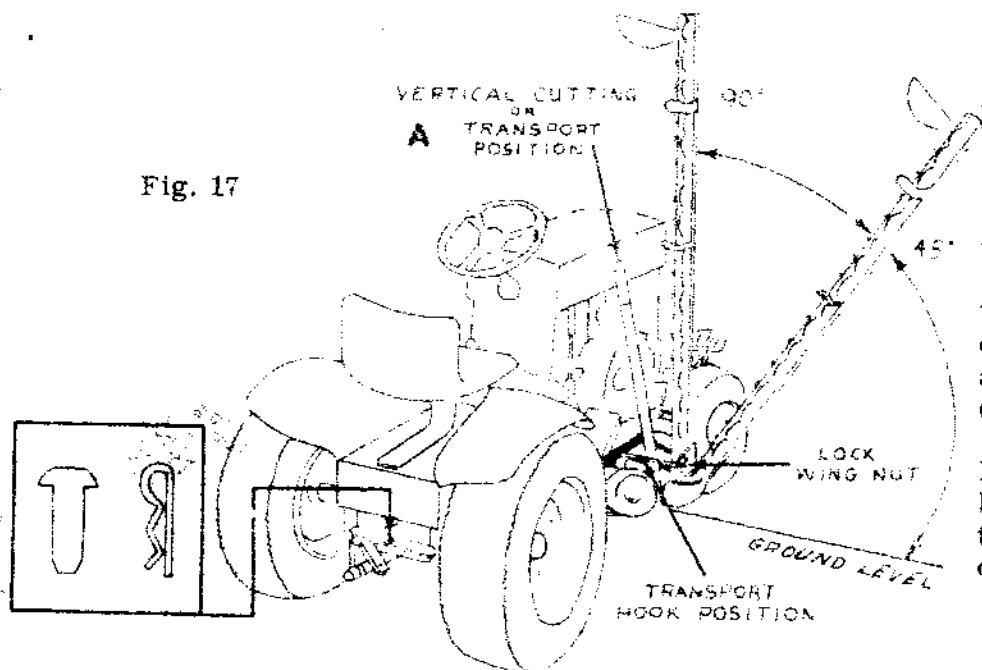

Fig. 17
Shut off tractor engine, and disengage tractor P.T.O. clutch. Install sickle knife cover using retaining strap to secure cover to bar. Set lift handle in transport position (A) taking transport hook in your left hand and standing back of mower bar, raise mower bar with right hand to vertical position--insert transport hook as illustrated, hooking onto cross bar of mower head--tighten lock wing nut to position mower bar in desired transport position--Avoid sudden or sharp turns in transport. (Fig. 17)